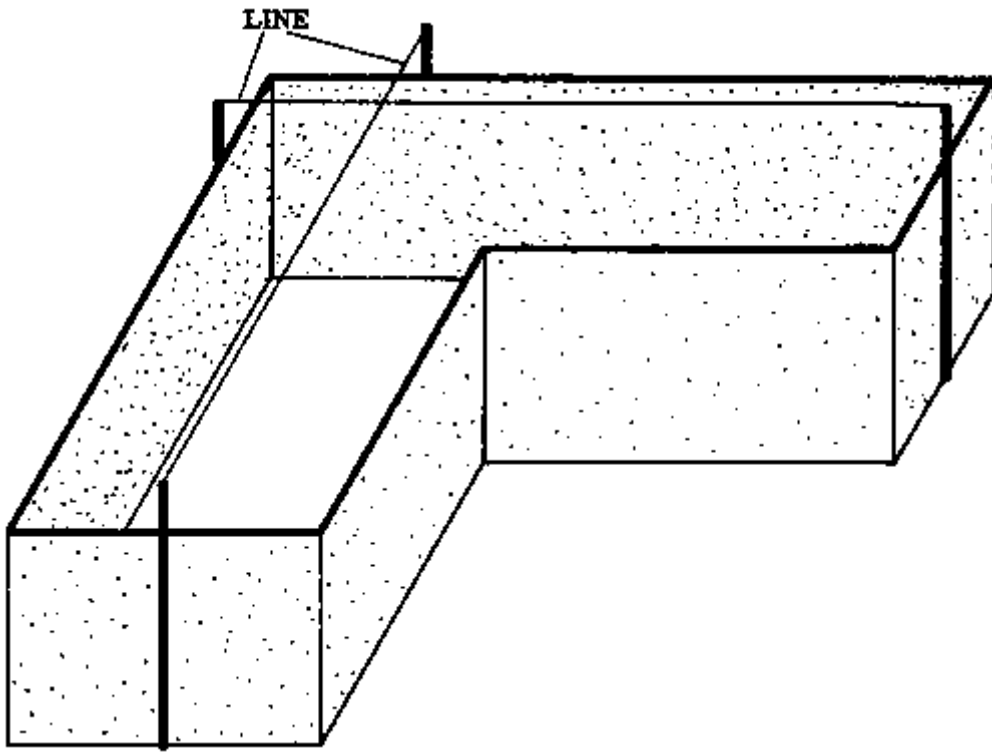

Fig. 1
- Start by erecting poles in the positions shown in Fig. 1, and fix lines at the ridge.